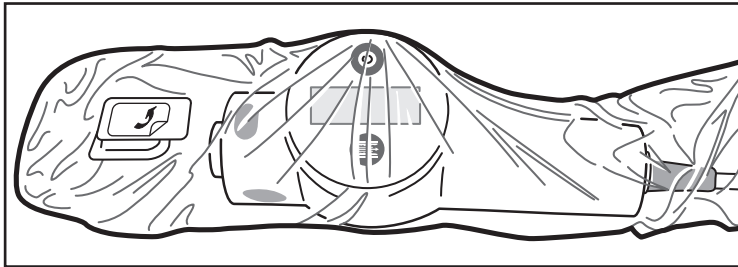

Figure 6. Positioned Bag
- To position the bag, stop advancing the MDU5 PLUS Motordrive Unit into the bag as soon as a snug fit is obtained. The sterile operator does not need to advance the MDU5 PLUS Motordrive Unit all the way to the bag's faceplate. It is normal to have space between the nose of the MDU5 PLUS Motordrive Unit and the faceplate on the bag (Figure 6).